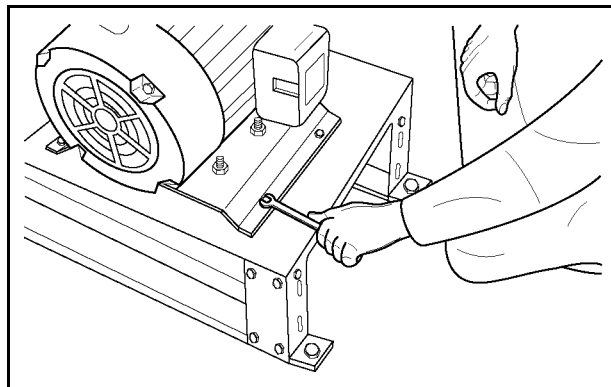

Figure 7B
3. Check the motor name plate for the correct motor frame size. Remove the hardware shipped in the Motor Mounting Plate. Locate the motor on the mounting plate using the hole pattern, which aligns with the motor base. Bolt the motor securely to the mounting plate with the supplied hardware that was previously removed. Loosen the (4) 1/2" flange head bolts, which secure the motor Mounting Plate to the blower base. *(See Figure 7B).*